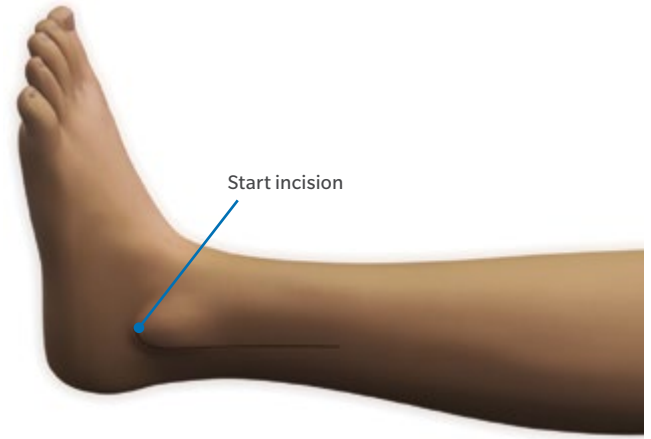

Fig. 3
- Start just below the distal tip of the fibula and extend the incision approximately 15 cm proximally (Fig. 3).